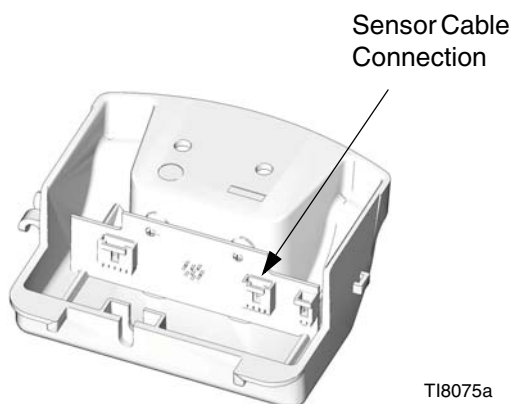

FIG. 15. Sensor Cable Connection
6. Remove the screws (43 and 41). Remove the air valve (40) by grasping the top and bottom and rotating the valve out from the right side, to pull the exhaust housing (E) out of the muffler (15). Replace the gaskets (46).
8. Lubricate the gaskets (46) and ensure they align with the holes at the back of the air valve (40). Install the air valve. Install the screws (41) and torque to 20 ft-lb (27.1 N•m). Thread the screws (43) in by hand, then fully tighten them against the muffler (15).
- a. **DataTrak Models:** Carefully slide the housing (132) onto the air valve. Thread the screws (134) in by hand, then torque to 100 in-lb (11.3 N•m). Reattach the solenoid and sensor cables to the DataTrak module (131), see page 14. Carefully slide the module back into the housing (132). Reinstall the two screws (135).
- b. **Linear Sensor Models:** Reconnect the sensor cable to the circuit board. See FIG. 15, page 26. Carefully slide the housing (132) onto the air valve. Thread the screws (134) in by hand, then torque to 100 in-lb (11.3 N•m).
- a. **DataTrak Models:** Remove the two screws (135). Carefully remove the DataTrak module (131), see page 14. Disconnect the runaway solenoid and sensor cables from the module board. Remove the two screws (134) and carefully slide the housing (132) off the air valve.
- b. **Linear Sensor Models:** Remove the screws (134) and carefully slide the housing (132) off the air valve. Disconnect the sensor cable from the circuit board. See FIG. 15 on page 26.
10. Reinstall the muffler (15). Fully tighten the screws (43) against the muffler.
11. Reinstall the outer valve cover (47).
13. Reinstall the top cover (30).
5. Remove the screws (134) and carefully slide the housing (132) off the air valve. Disconnect the sensor cable from the circuit board. See FIG. 15.
6. Thread the cable back through the hole (H) in the side of the adapter (33) and extend it out the top of the adapter.
7. Unscrew the adapter (33) and sensor (35). Lift the sensor straight up out of the air motor.
8. Apply thread adhesive to the new sensor housing. Screw the sensor (35) into the top cap (1). Torque to 30-36 ft-lb (40.6-48.8 N•m).
9. Apply thread adhesive to the adapter (33). Extend the sensor cable straight up out the top of the adapter, then screw the adapter into the top cap (1). Torque to 30-36 ft-lb (40.6-48.8 N•m).
10. Thread the sensor cable through the hole (H) in the side of the adapter, and reconnect it to the circuit board. See FIG. 15, page 26. Carefully slide the housing (132) onto the air valve. Thread the screws (134) in by hand, then torque to 100 in-lb (11.3 N•m).
11. Apply thread adhesive to the lift ring (21). Hold the adapter (33) with a wrench to keep it from turning, and torque the lift ring to 30-36 ft-lb (40.6-48.8 N•m).
12. Reinstall the top cover (30).